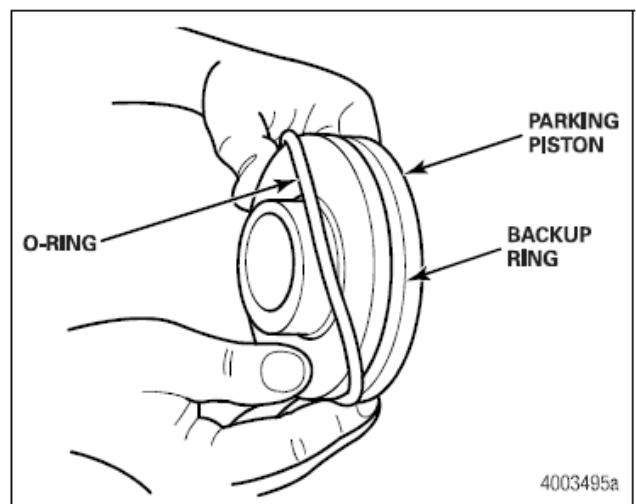

Figure 5.6
14. Install one new, larger diameter (5-inch-127 mm) parking piston backup ring into the outer groove of each parking piston Figure 5.6.
15. Lightly lubricate two new, larger diameter 5-inch (127 mm) parking piston O-rings using silicone grease. Install one O-ring into the O-ring groove of each parking piston. Figure 5.6.